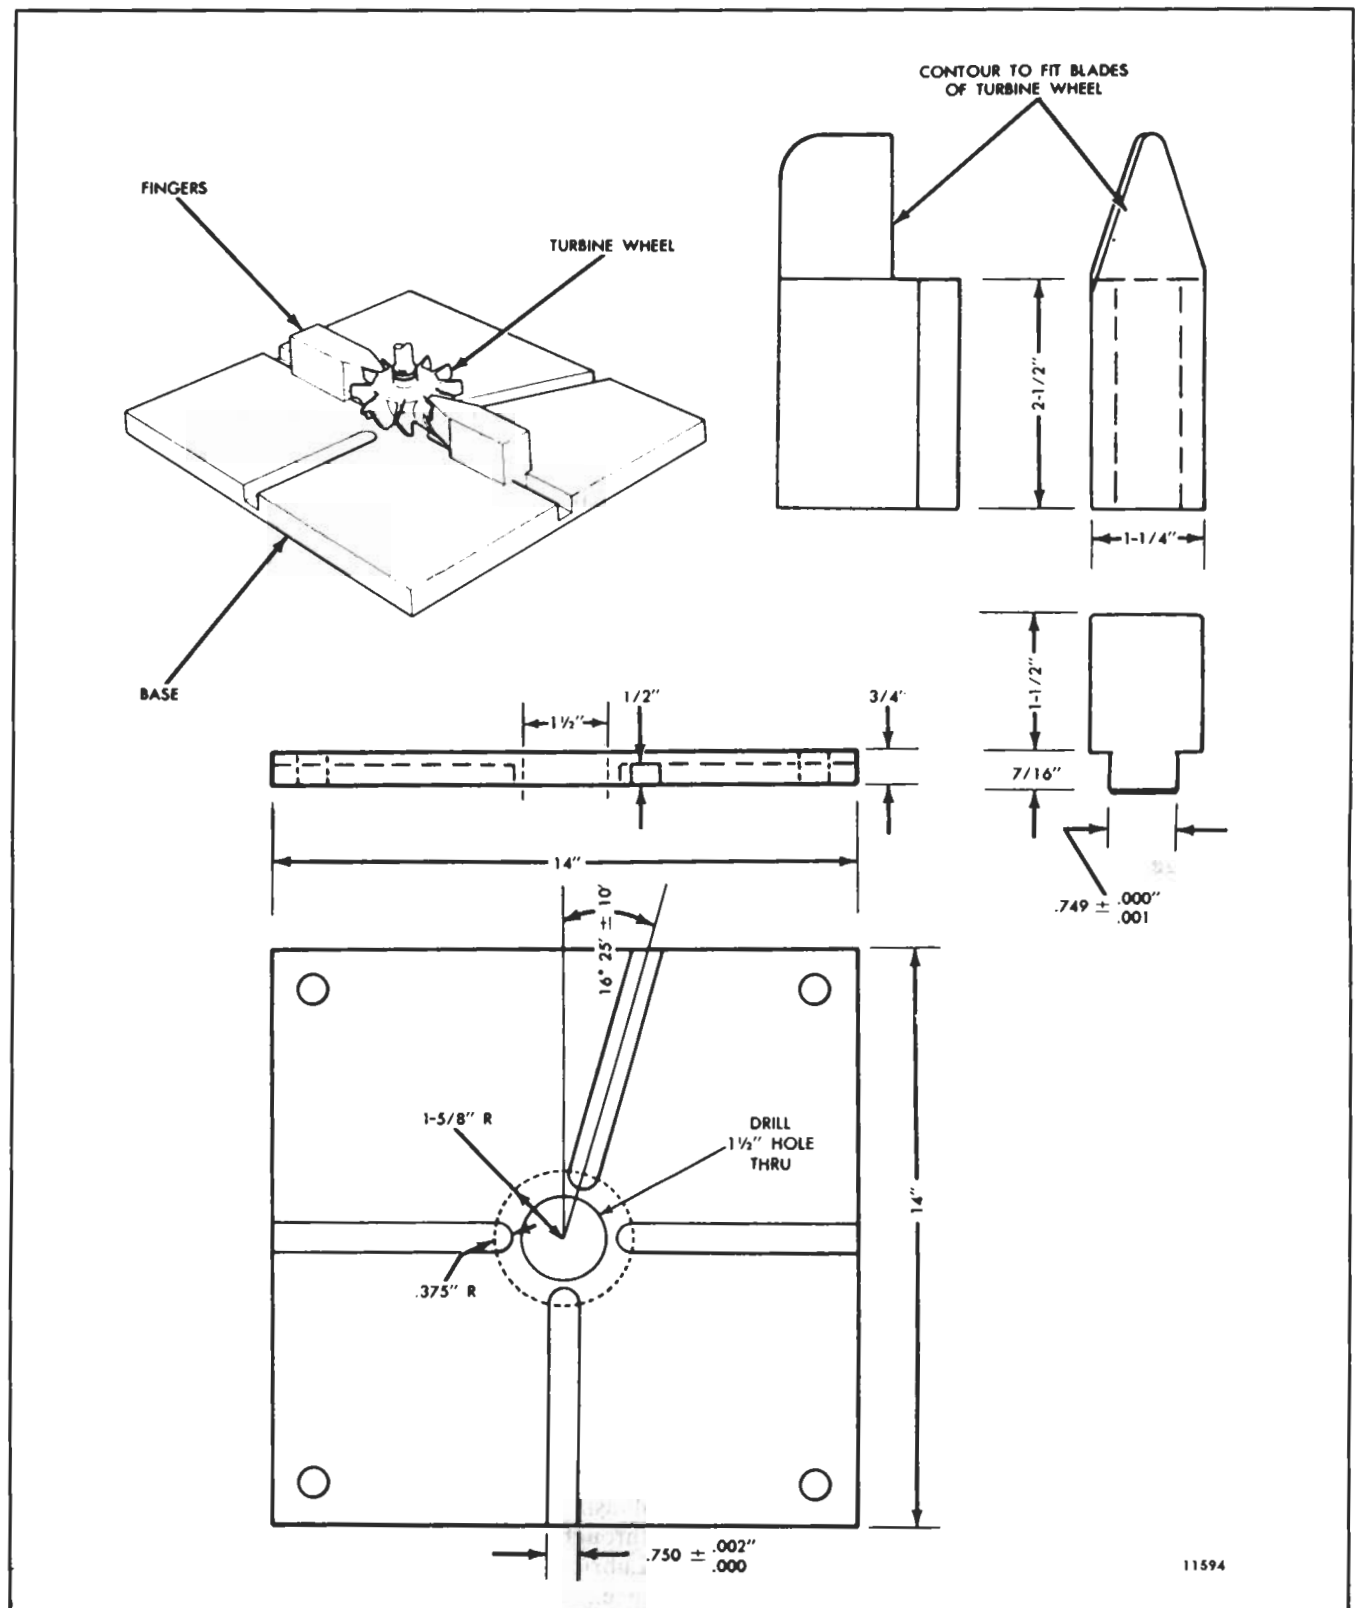

Fig. 9 - Turbocharger Holding Fixture
3. Position the turbine wheel (9) of the center housing assembly in a suitable holding fixture (Fig. 9). Remove the wheel nut (7) from the shaft.
center housing and backplate upright in a suitable holding fixture as shown in Fig. 9.
6. Place the turbine wheel shaft assembly, shroud and center housing upright in a suitable holding fixture as shown in Fig. 9.